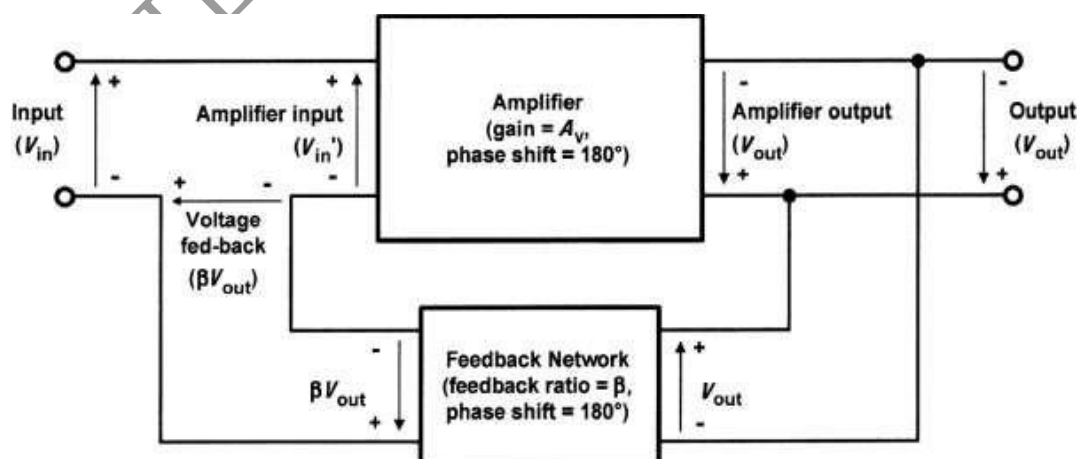

Figure 1.24 Amplifier with negative feedback applied
- An alternative form of feedback, where the output is fed back in such a way as to reinforce the input (rather than to subtract from it) is known as positive feedback. This form of feedback is used in oscillator circuits. Fig. 1.24 shows the block diagram of an amplifier stage with negative feedback applied.